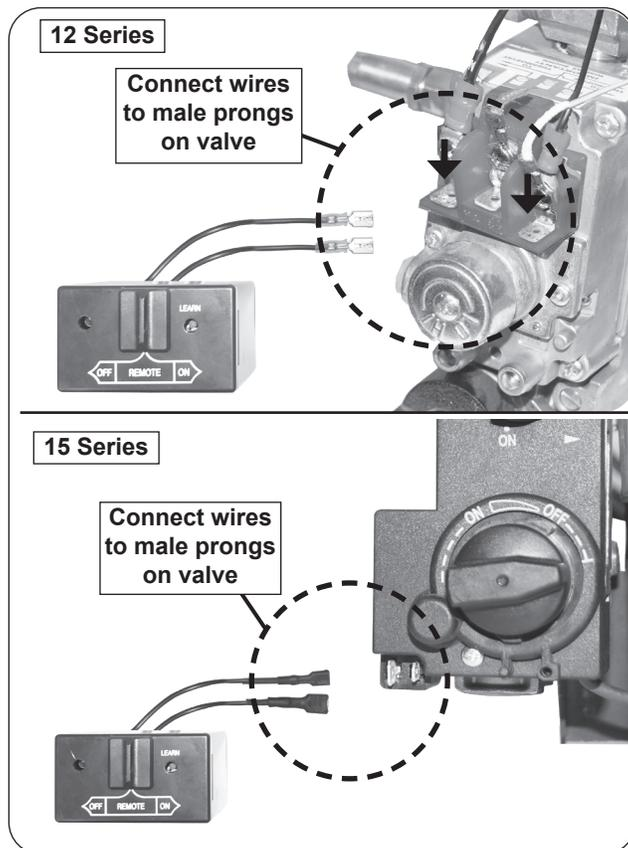

Fig. 17-1 Connect remote receiver to valve
1. Locate the wires coming off of the remote receiver, and connect them to the two male prongs found on the valve (see Fig. 17-1).